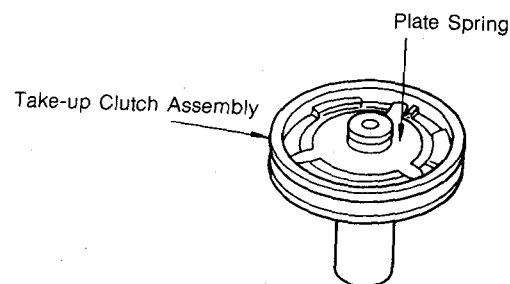

FIG. 20
- c) Change take-up clutch tension by turning the friction spring under reel table, as shown in Fig. 20, and/or